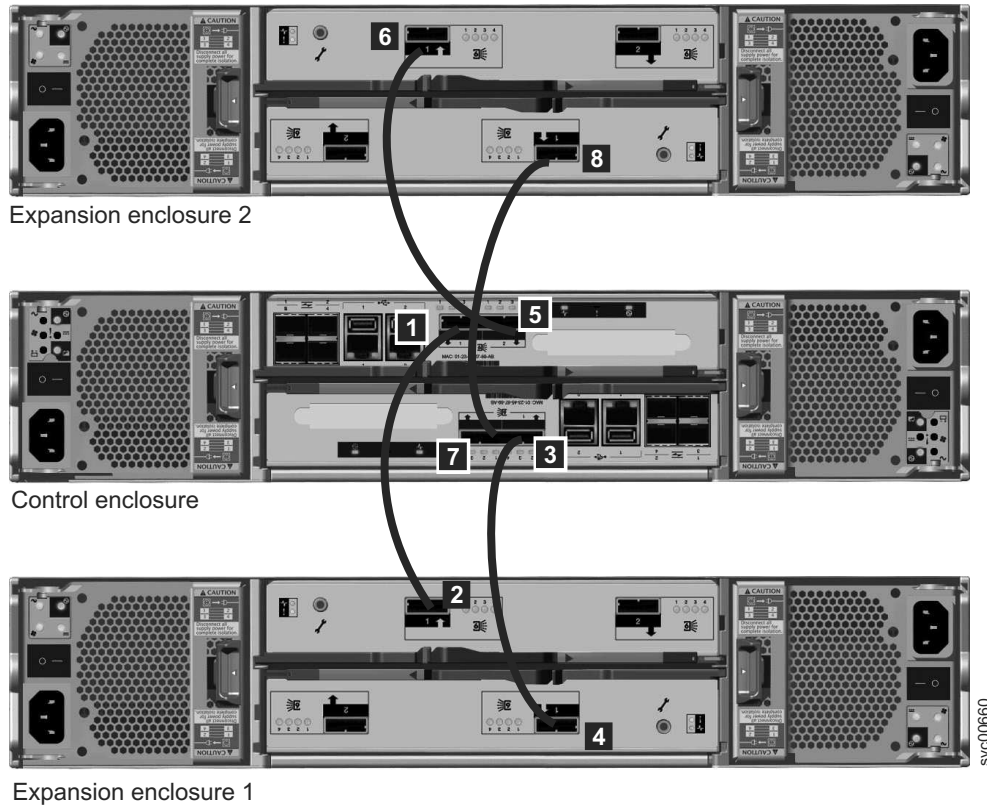

Figure 46. Adding a second expansion enclosure
3. Attach the SAS cables from the control enclosure to the second expansion enclosure as shown in Figure 46. The second expansion enclosure is above the control enclosure.